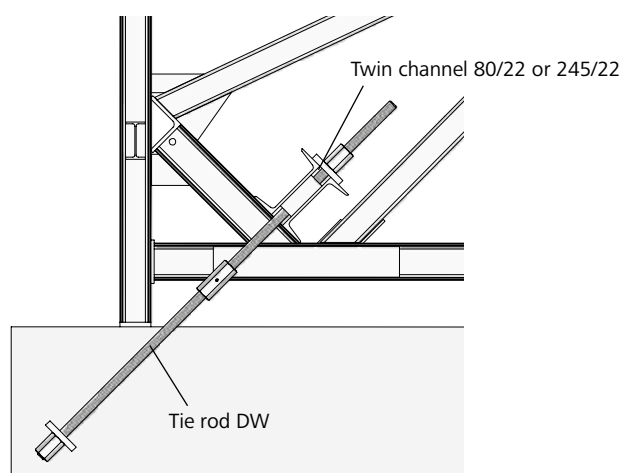

Fig. 19.5
- With tie rod DW 20 or DW 26.5 and twin channel 80/22 or 245/22 (Fig. 19.5).